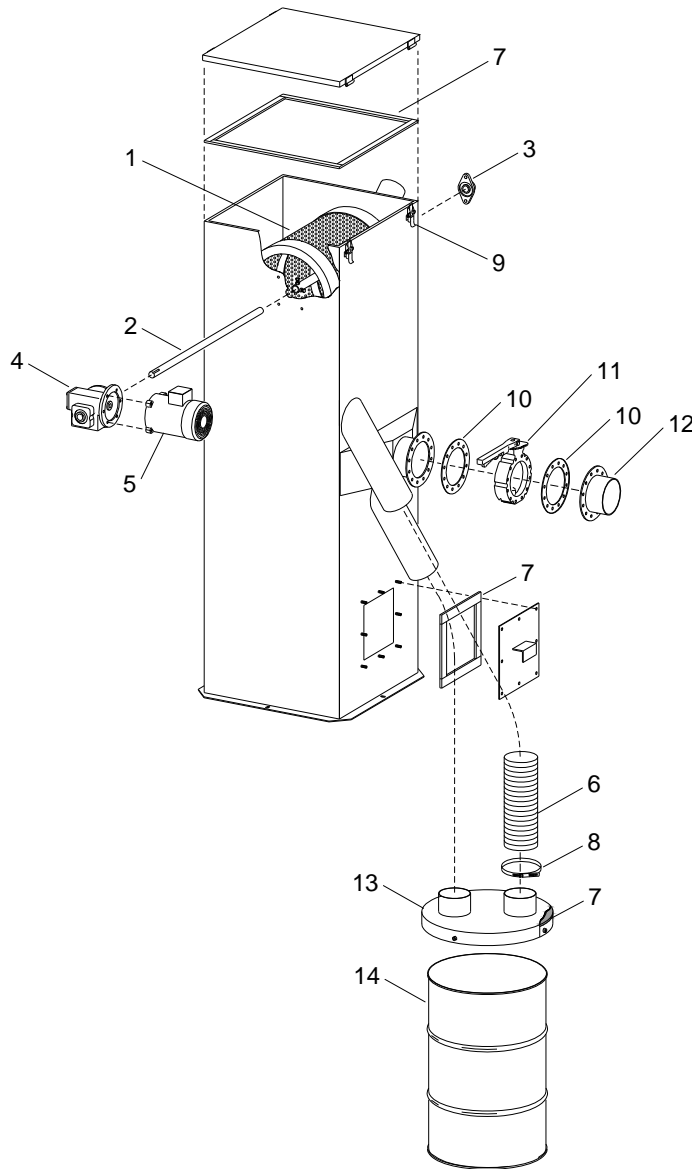

Figure 11
7.2 Abrasive Cleaner, Figure 11